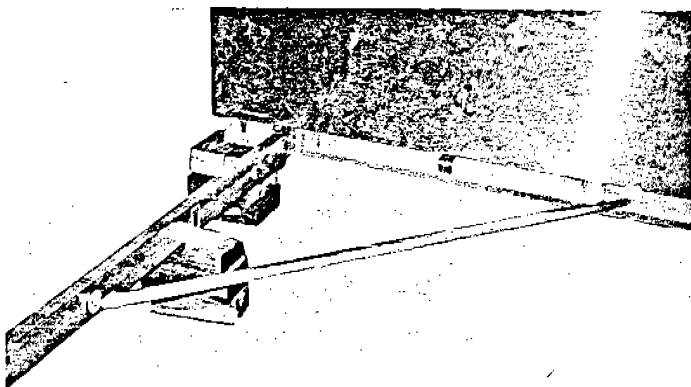
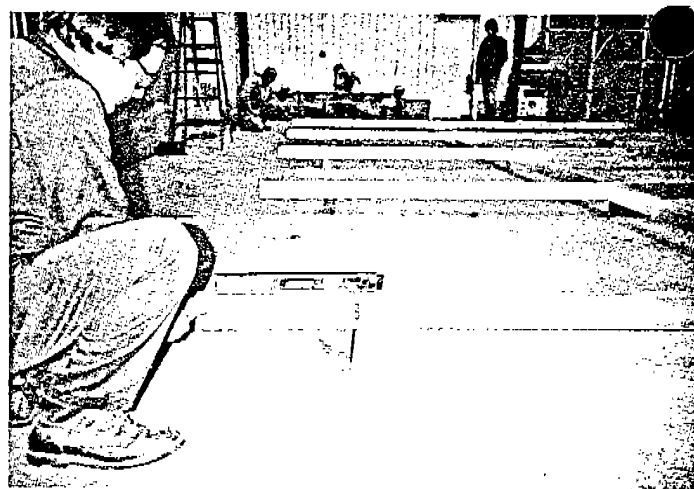

FIGURE 3
FIGURE 4
1. **INSTALLING PURLINGS:** Remove all underpurlings from deck and install each numbered purling to corresponding numbered position on trailer frame. Square #5 purling with side of trailer frame using squaring bar furnished. (See Figure 3). Now install cross purlings. Level #1 and #5 purlings and using a chalk line or string from #1 to #5 purling and proper blocking at labeled locations "B", level #2, #3 and #4 purlings. (See Figure 4). Repeat above procedure on other side of ride.